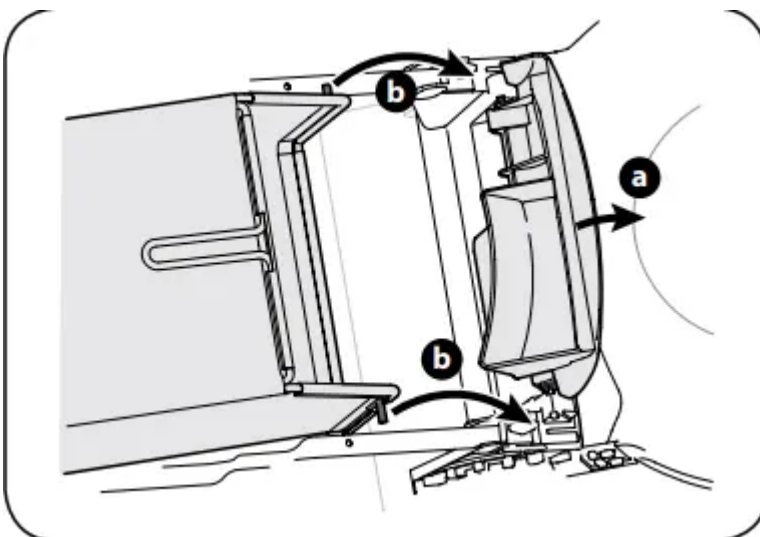

Figure 8
b. Place grass catcher into the slots in the handle brackets as shown in Figure 8. Let go of discharge door so that it rests on the grass catcher.